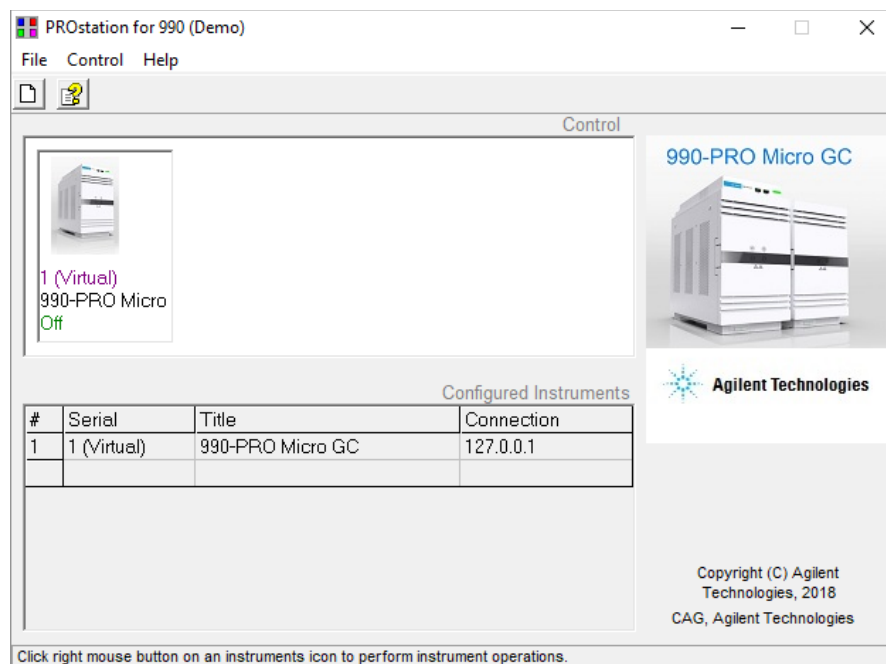

Figure 24. Instrument connected status
- The created instrument now appears in the **PROstation database** and its serial number is shown, as well as IP address and busy status, see Figure 24 on page 58.
- When instrument is in use (the instrument is opened in **PROstation**) **Busy** is displayed, see Figure 24 on page 58.